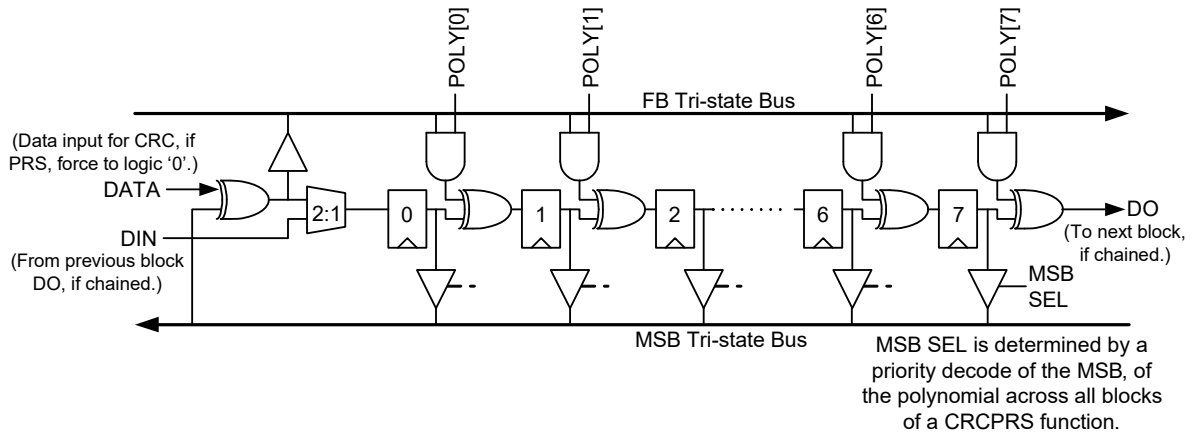

Figure 17-4. CRCPRS LFSR Structure
A Cyclic Redundancy Check/Pseudo Random Sequence (CRCPRS) function consists of a polynomial register, a **Linear Feedback Shift Register (LFSR)**, and a seed register. (See Figure 17-4 on page 329.) When the CRCPRS block is disabled and a **seed value** is written into DR2, the seed value is also loaded into DR0. When the CRCPRS is enabled, and synchronous clock and data are applied to the inputs, a CRC is computed on the **serial** data input stream. When the data input is forced to '0', then the block functions as a pseudo random sequencer (PRS) generator with the output data generated at the clock rate. The most significant bit (MSb) of the CRCPRS function is the primary output.
The LSFR (Linear Feedback Shift register) structure, as shown in Figure 17-4, is implemented as a modular *shift* register generator. The least significant block in the chain inputs the MSb and XORs it with the DATA input, in the case of CRC computation. For PRS computation, the DATA input is forced to logic 0 (by input selection); and therefore, the MSb bus is directly connected to the FB bus. In the case of a chained block, the data input (DIN) comes directly from the data output (DO) of the LFSR in the previous block. The MSb selection, derived from the priority decode of the polynomial, enables one of the tri-state drivers to drive the MSb bus.